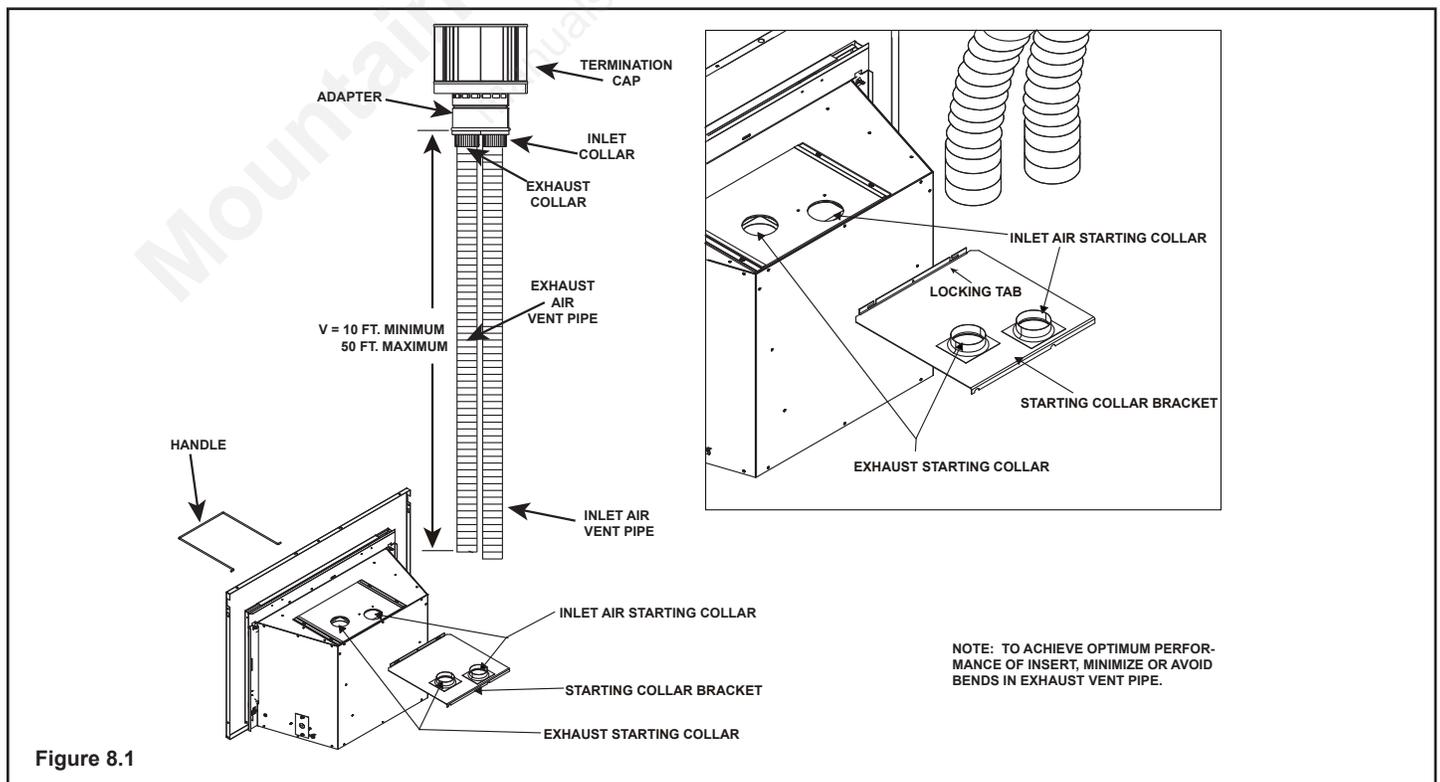

Figure 8.1
- Secure the exhaust flexible vent pipe to the exhaust starting collar on top of the appliance with three screws and seal with stove cement rated for continuous exposure to 1200°F or higher. See Figure 8.1.
- Use 3 screws to attach the section of inlet air vent to the inlet collar on the collar slide plate and seal with stove cement rated for continuous exposure to 1200°F or higher. See Figure 8.1. NOTE: The collar slide plate may be removed from appliance to aid installation.
- Secure collar slide plate to appliance by placing locking handle into position with locking tabs (see Figure 8.1) and secure with #8 screw.